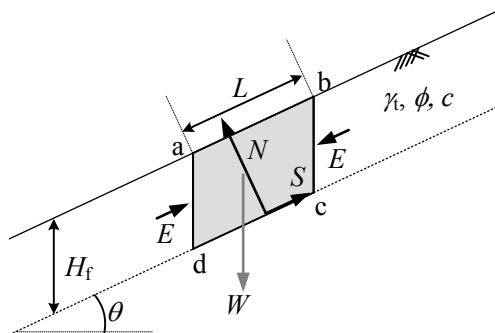

Figure 3
(1) Answer the following questions regarding the slope stability.
- (1-1) Figure 3 shows an infinite slope. Consider a sliding surface at depth  $H_f$  as shown in Figure 3 that is parallel to the slope surface. From the balance of the forces acting on the soil area abcd between the ground surface and the sliding surface, find the safety factor,  $F$  against the sliding failure. Derivation processes of the safety factor must be described. Here,  $N$  and  $S$  are the normal and tangential forces acting on the base of the area abcd, respectively. Neglect the balanced forces,  $E$  acting on the right and left sides of this area abcd. Assume that the groundwater table is well below the sliding surface. If the shear strength along the sliding surface is governed by the Mohr-Coulomb failure criterion ( $\tau = c + \sigma \tan \phi$ ), formulate the safety factor,  $F$  for the assumed failure, in terms of  $c, \gamma_t, H_f, \sigma, \phi, \theta$ .